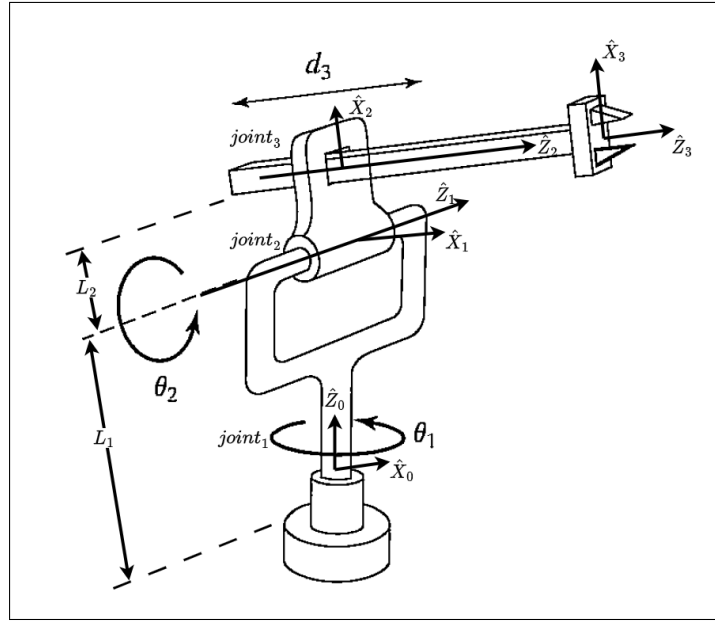

Figure 5: Three-link RRP manipulator
**Answer:** The frames are attached as per DH convention given by Spong. See below Figure 5 -